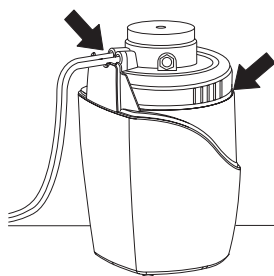

Fig. 46
16. **Check** for any signs of leakage (Fig. 46).